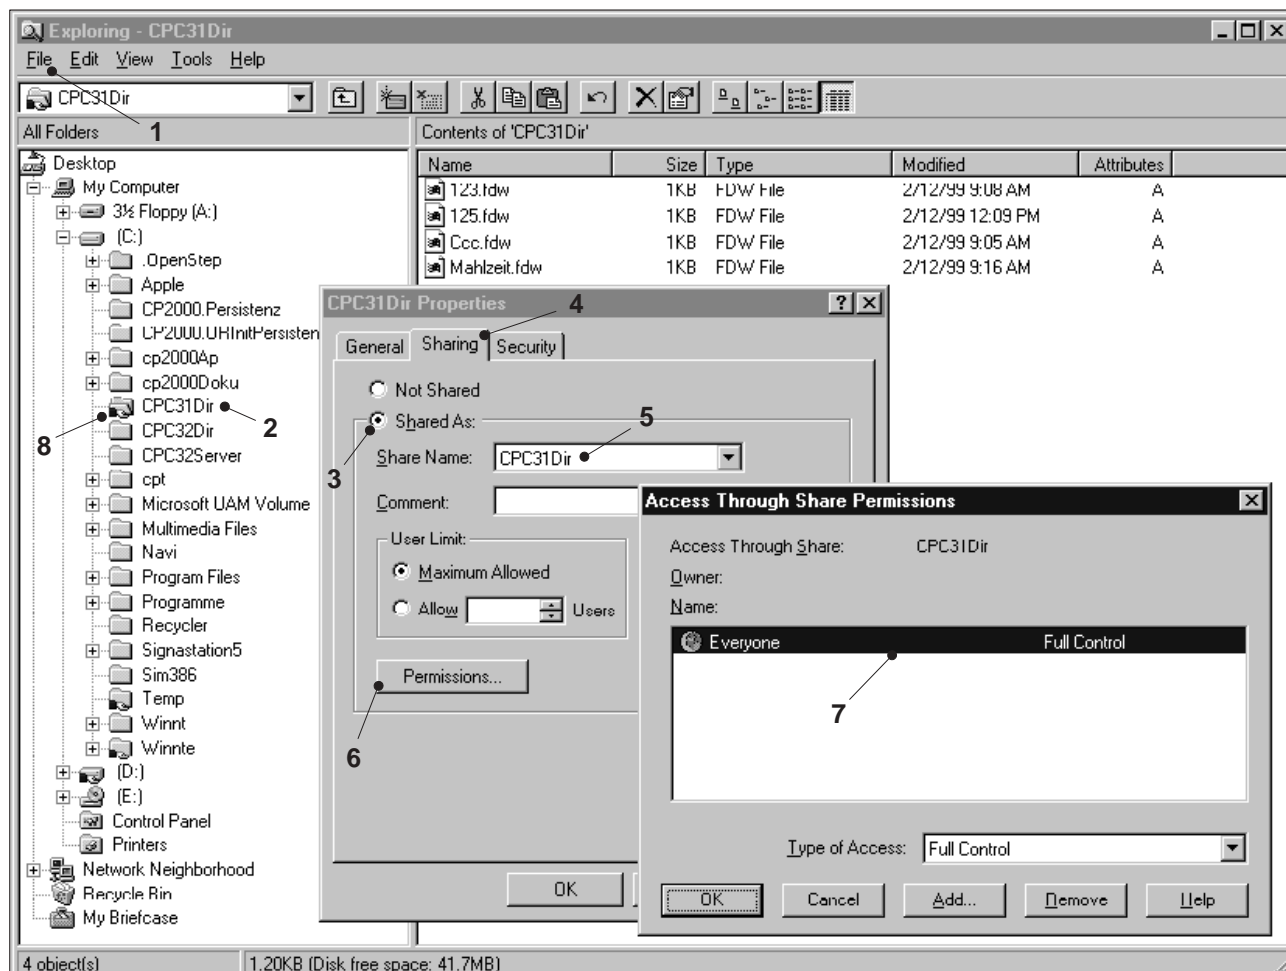

Fig. 2 Enabling the directory
- 1 In Explorer click on the directory CPC31Dir (Fig. 2/2).
② On the menu bar click on **File>Properties** (Fig. 2/1).
③ Click on the tab **Sharing** (Fig. 2/4).
④ Click on the circle in front of **Shared As** (Fig. 2/3).
⑤ Click on the **Permissions...** button (Fig. 2/6).
⑥ Checking the setting:
in the window "Access Through Share Permissions" the group **Everyone** must be allocated the access type **Full Control** (Fig. 2/7).
The directory CPC31Dir must now display a hand (Fig. 2/8).